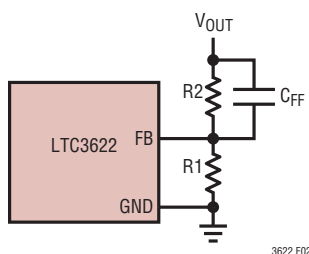

Figure 2. Setting the Output Voltage
**FB2 (Pin 10/Pin 11):** Feedback Input to the Error Amplifier of Channel 2 Step-Down Regulator. Connect resistor divider tap to this pin. The output voltage can be adjusted from 0.6V to VIN by:  $V_{OUT} = 0.6V \cdot [1 + (R2/R1)]$ . (Figure 2) For fixed VOUT options, connect the FB pin directly to VOUT.
**FB1 (Pin 12/Pin 13):** Feedback Input to the Error Amplifier of Channel 1 Step-Down Regulator. Connect resistor divider tap to this pin. The output voltage can be adjusted from 0.6V to VIN by:  $V_{OUT} = 0.6V \cdot [1 + (R2/R1)]$ . (Figure 2) For fixed VOUT options, connect the FB pin directly to VOUT.
The resistive divider allows the FB pin to sense a fraction of the output voltage as shown in Figure 2.
The initial output voltage step may not be within the bandwidth of the feedback loop, so the standard second order overshoot/DC ratio cannot be used to determine phase margin. In addition, a feedforward capacitor can be added to improve the high frequency response, shown in Figure 2. Capacitor  $C_{FF}$  provides phase lead by creating a high frequency zero with R2, which improves the phase margin.